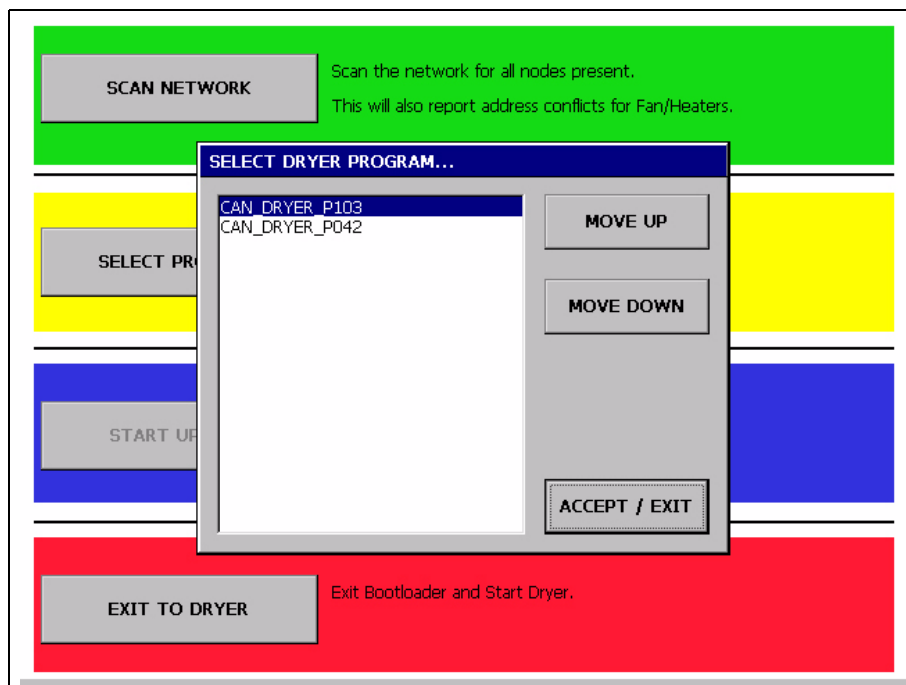

Figure 4G
- Choose the “Select Program” button from the “Boot Loader” screen. (See Figure 4G.)